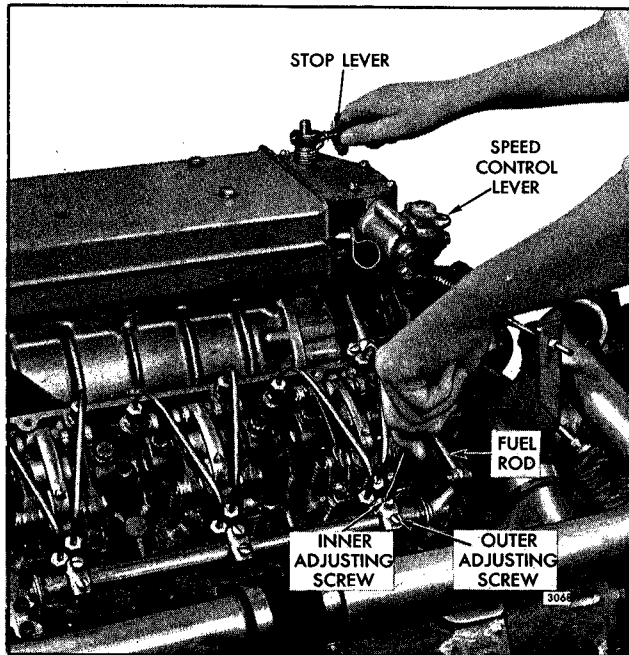

Fig. 3 - Positioning No. 3L Injector Rack Control Lever
6. Move the stop lever to the **run** position and hold it in that position with light finger pressure. Turn the inner adjusting screw of the No. 3L injector rack control lever down (Fig. 3) until a slight movement of the control tube is observed, or a step up in effort to turn the screw driver is noted. This will place the No. 3L injector rack in the *full-fuel* position. Turn the outer adjusting screw down until it bottoms lightly on the injector control tube. Then, alternately tighten both the inner and outer adjusting screws. This should result in placing the governor linkage and control tube in the respective positions that they will attain while the engine is running at full load.